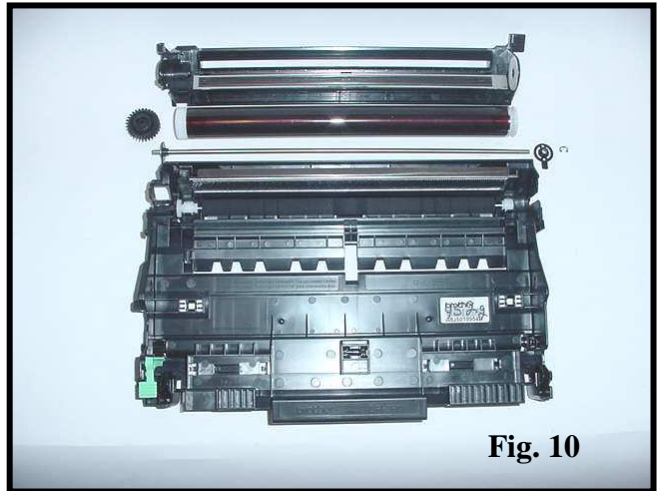

Fig. 10
10. Replace drum and reassemble cartridge in reverse order (Fig. 10).